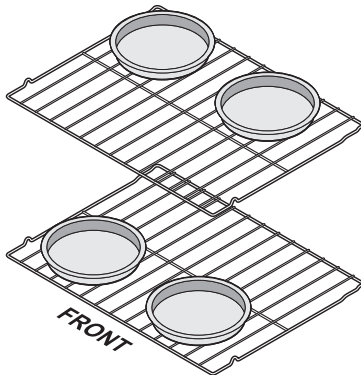

Figure 13: Pan positions two rack baking
- When baking using two oven racks, position cookware as shown in Figure 13. Allow at least 2 inches (5 cm) of space between cookware for proper air circulation..